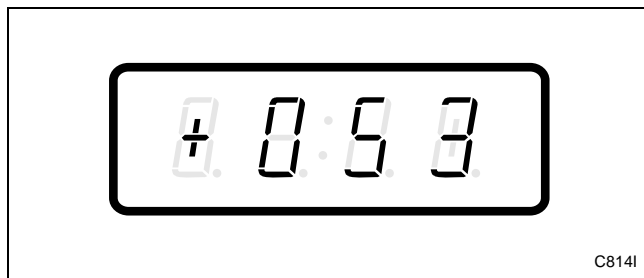

Figure 145
3. Press the DELICATES (+) or the COLD (-) keypad to scroll through the programmable options until “+053” appears in the VFD. Refer to *Figure 145*.